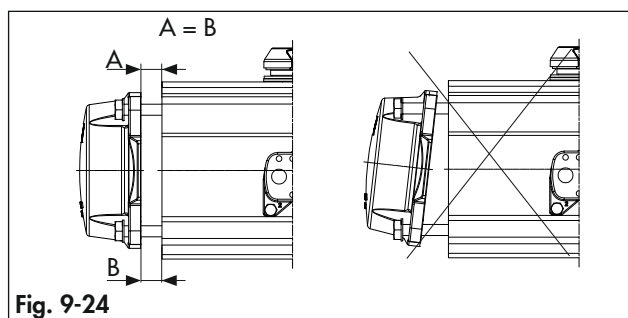

Fig. 9-24
- ➔ Assemble the end caps as shown in Fig. 9-24 keeping a constant distance ($A = B$) between the actuator body and the end cap interface.
Refer to Fig. 9-1 and Fig. 9-24.